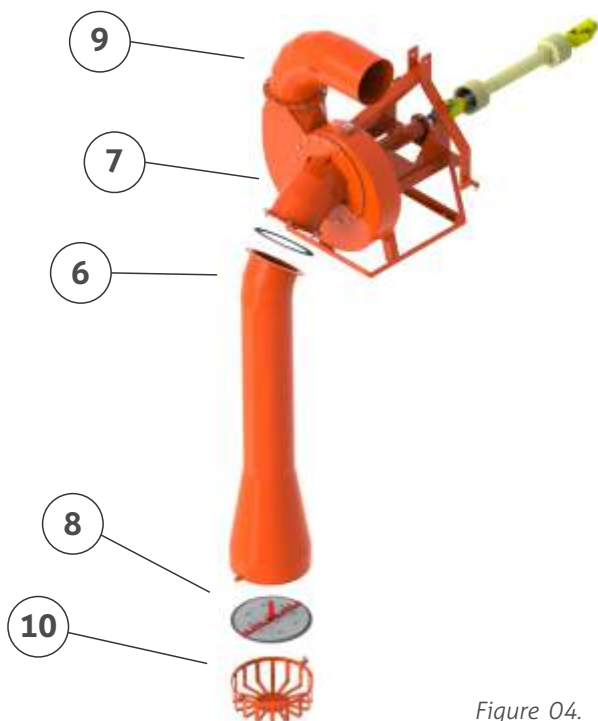

Figure 04.
Centrifugal Pumps are factory- preassembled. You just have to assemble the Suction pipe (6) to the Suction Elbow (7), as shown in the figure 04 below.